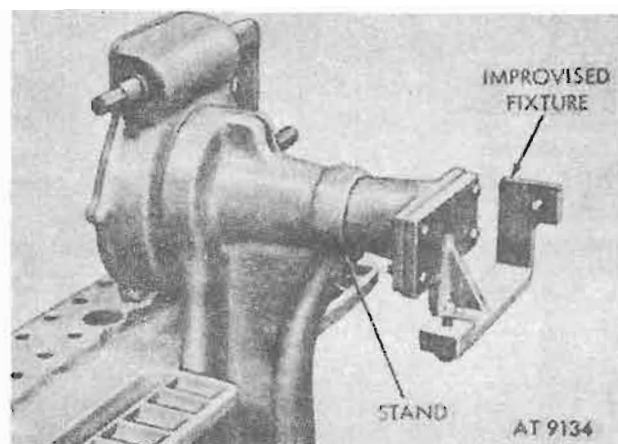

Figure 8-1. Transmission holding fixture.
a. Secure improvised transmission holding fixture to available stand (fig. 8-1).